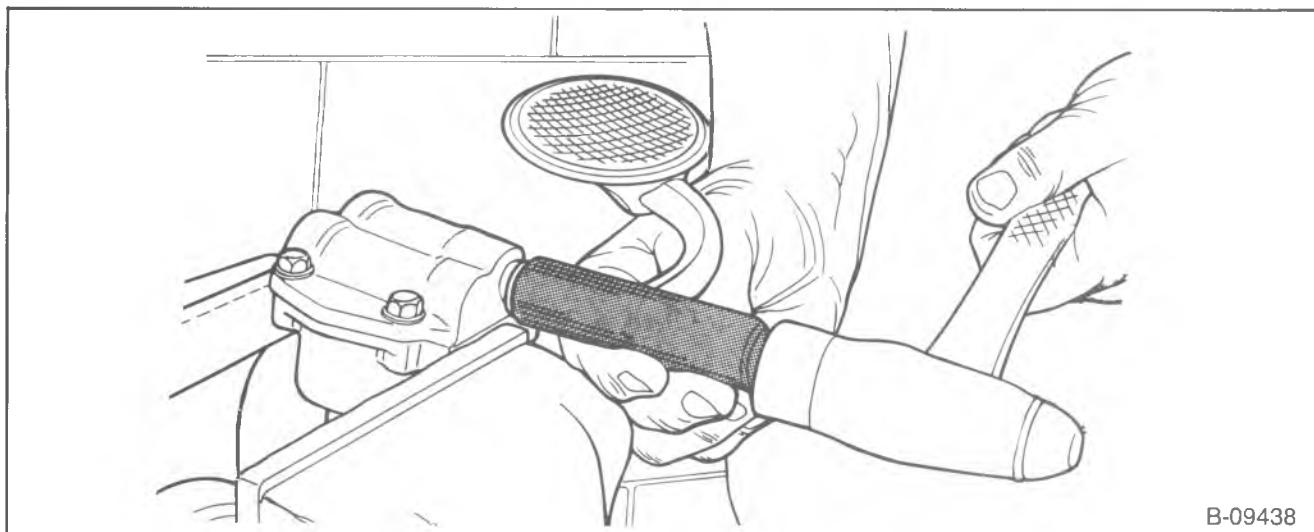

Figure 33—Installing the Oil Pump Screen and Pipe
- Pick-up screen and pipe (140) (if removed) (figure 33).